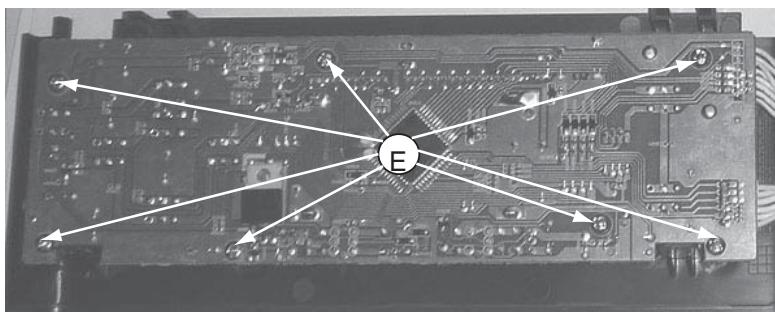

Figure 5
- 2) Loosen 7 screws " E " at the bottom of VFD board as shown in figure 5.